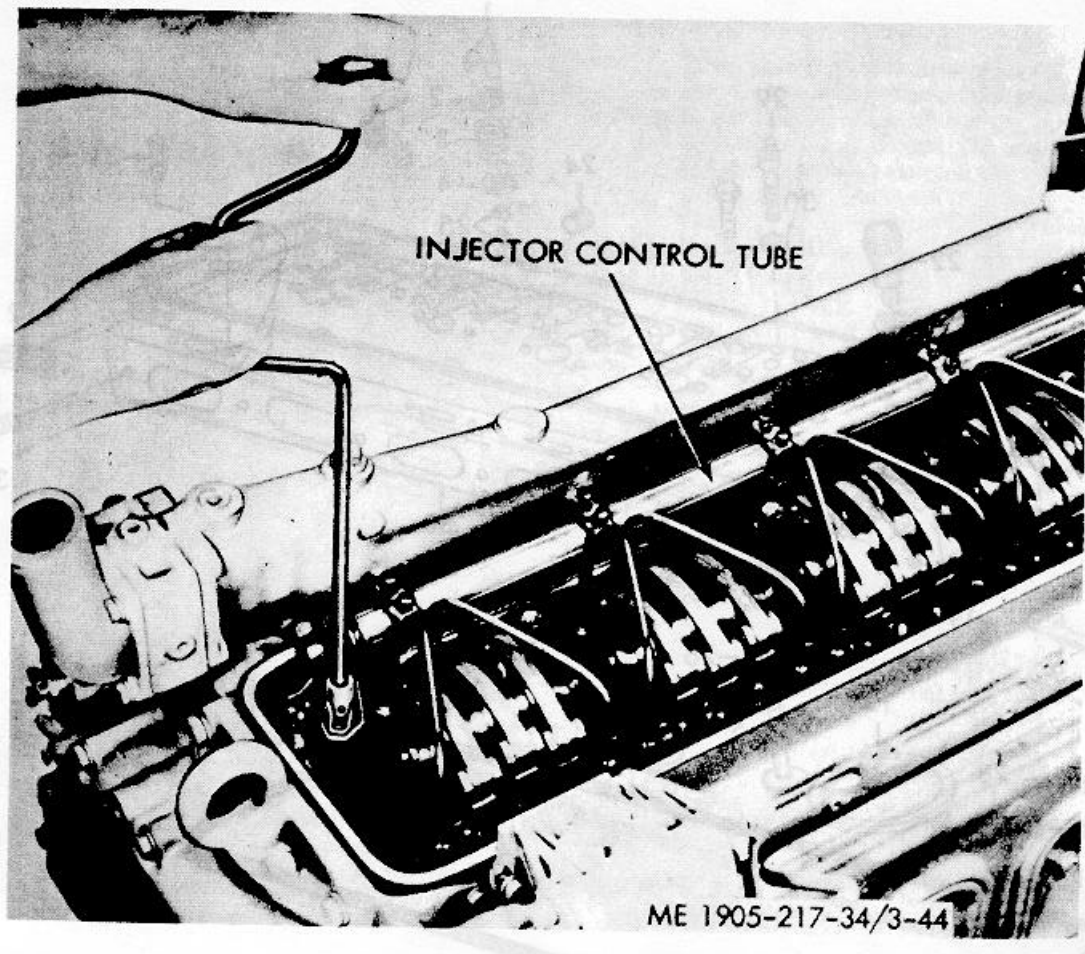

Figure 3-44. Injector control tube and cylinder head mounting nuts and bolts, removal and installation.
- (1) Drain the cooling system to a level below the head. (TM 55-1905-217-12, para 4-22).
- (2) Remove the exhaust pipe and water connections from the manifolds (TM 55-1905-217-12, para 4-22).
- (3) Remove Rocker arm cover (TM 55-1905-217-12).
- (4) Slide thermostat housing clamp and packing back on water manifold. Remove thermostat and housing (TM 55-1905-217-12, para 4-44).
- (5) Loosen the injector control tube bracket bolts as shown in figure 3-44. Lift control tube up and away from head.
- (6) Remove fuel injectors and connectors (para 3-4).
- (7) Remove the governor assembly (para 3-4).
- (8) Loosen the two bolts directly below each lifter bracket which attach the balance weight cover and flywheel housing to the front and rear end plates.
- (9) Remove the four bolts that secure the lifter brackets to the balance weight cover and flywheel housing.
- (10) Remove the cylinder head mounting nuts and bolts as shown in figure 3-44.
- (11) Insert lifting hooks into the lifting bracket eyes and, with a hoist, lift the cylinder head evenly off the cylinder head studs.